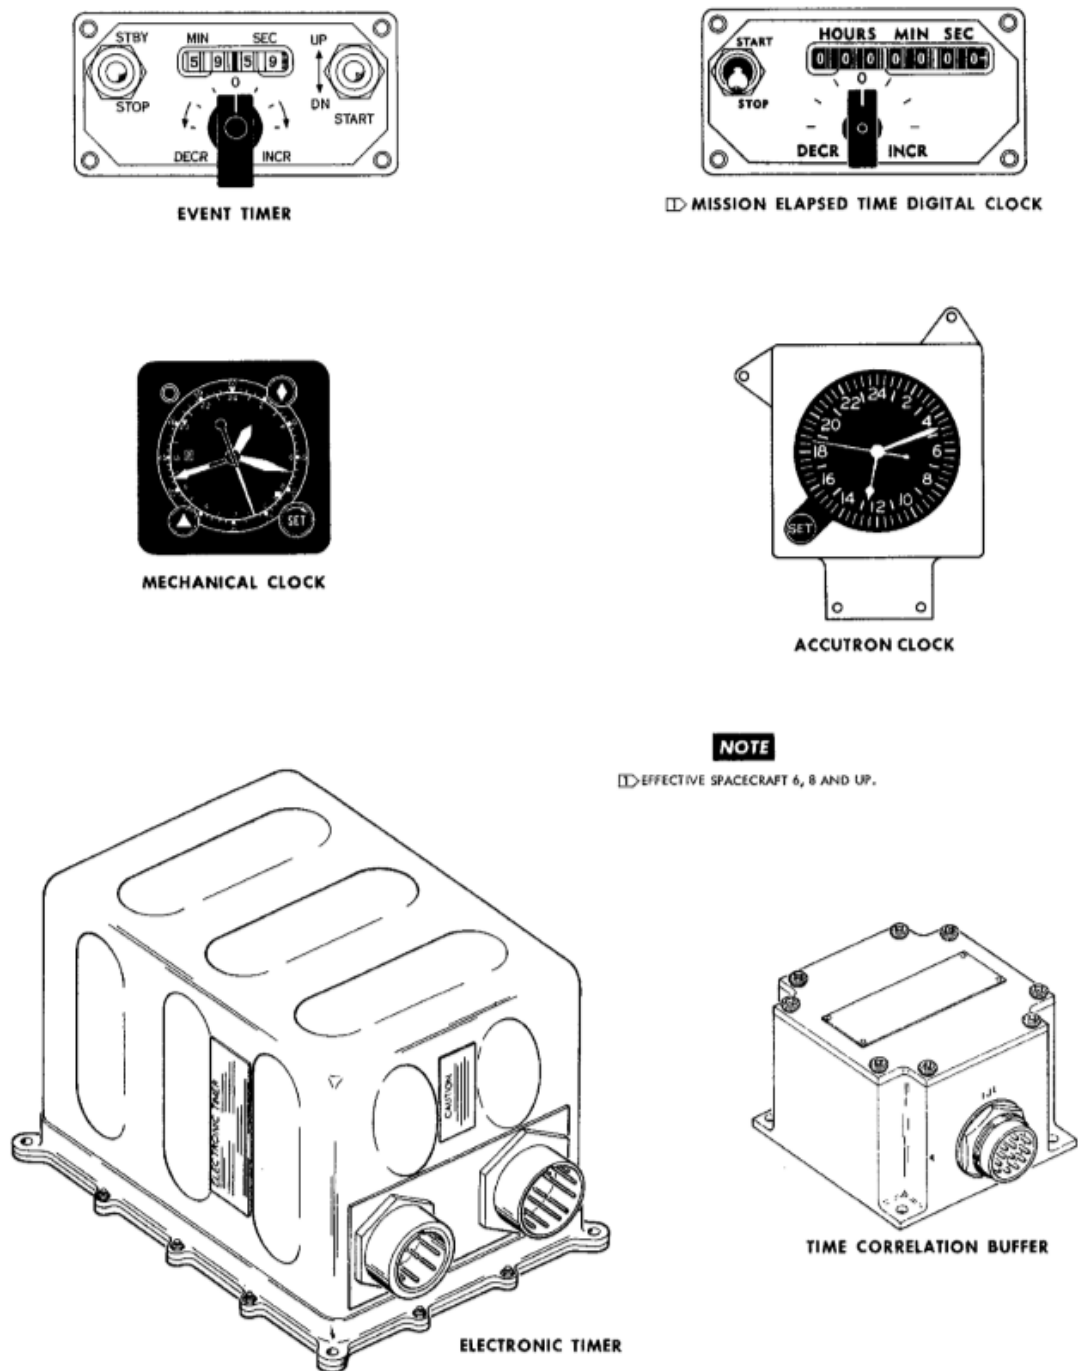

Figure 5.7.1 – TRS, from SEDR 300 manual
The electronic timer provides a countdown of Time-To-Go (TTG) to retrograde (Tr) and Time-To-Go to equipment reset (Tx), time correlation for the PCM data system for instrumentation and bio-med tape recorders, and a record of the Elapsed Time (ET) from lift-off. Figure 5.7.1 shows this.